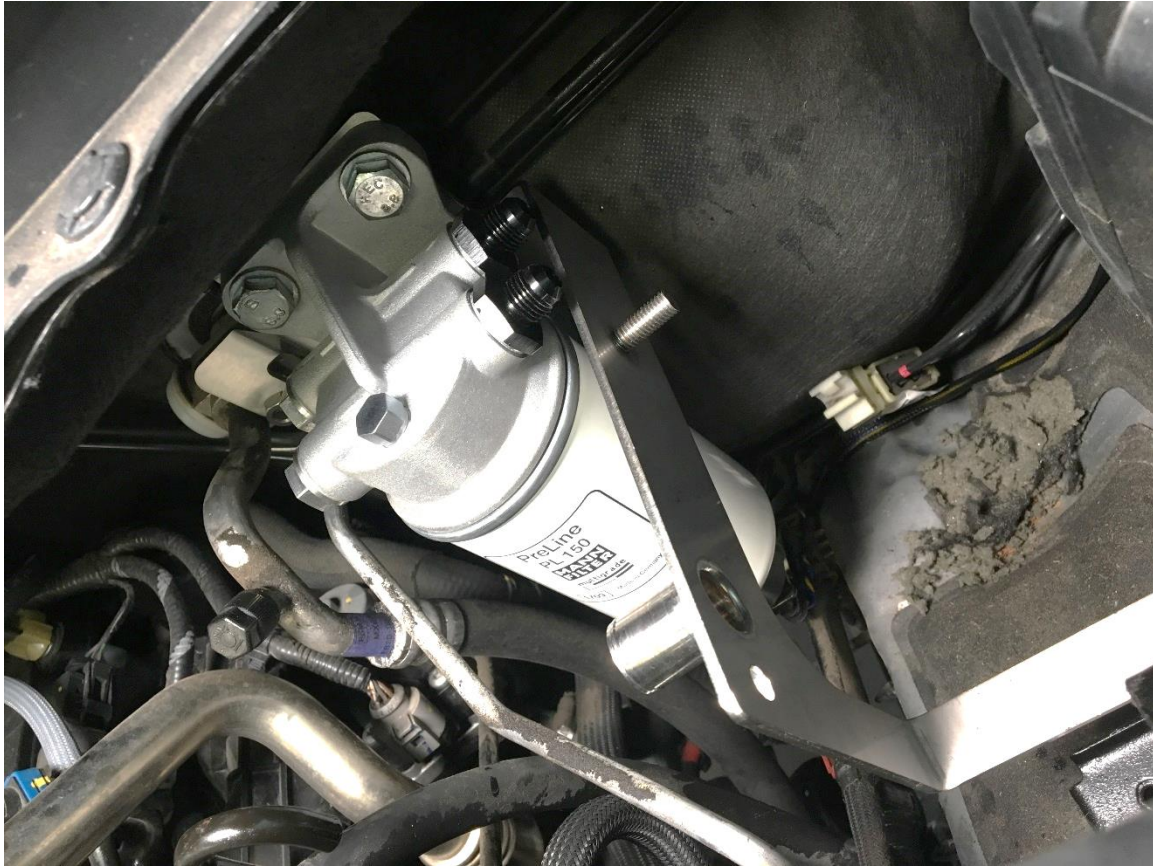

Figure 1
5. Mount the PL150DP Pre-filter assembly to the mounting bracket using the 2 x 10mmx30mm bolts, 2 x 10mm flat washers. Ref figure 1